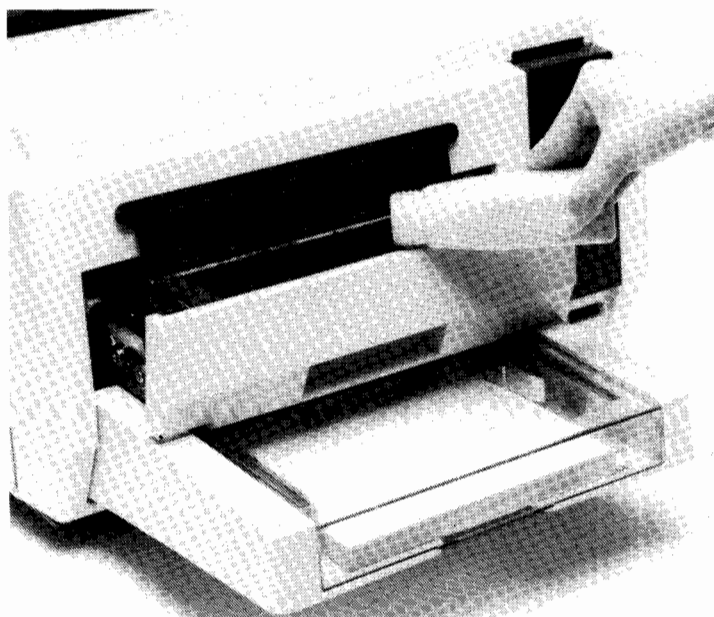

Figure 3-12. Pouring Toner
- c. Shake the toner bottle twenty or more times before opening and then carefully pour the toner into the developing tank, distributing toner equally across the drawer (figure 3-12).